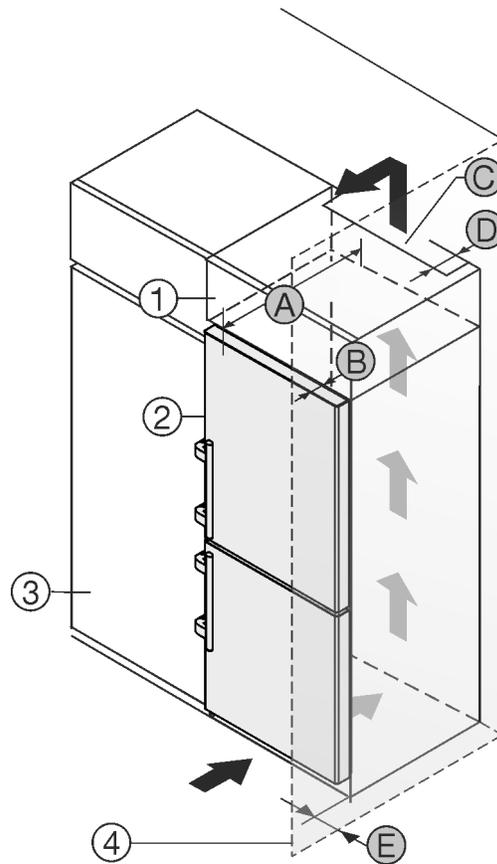

Fig. 2
- (1)** Top cabinet*
- (2)** Appliance*
- (3)** Kitchen cabinet*
- (4)** Wall*
- (A)** Appliance depth*
- (B)** Door depth*
- (C)** Ventilation cross-section*
- (D)** Distance to the rear of the appliance*
- (E)** Distance to the side of the appliance*
Set up the appliance directly next to the kitchen cabinet Fig. 2 (3).*
There must be a ventilation shaft at the depth Fig. 2 (D) of the back of the top cupboard over the entire width of the top cupboard.*
The cross section of the ventilation gap Fig. 2 (C) must be maintained below the ceiling.*
If the appliance is installed with the hinges next to a wall Fig. 2 (4), the distance between the appliance and the wall must be at least 57 mm (2.24 in). This is how far the handle protrudes when the door is open.*
In order to be able to fully open the door, the appliance must protrude by the depth *Fig. 2 (B)* of the door from the front of the kitchen cabinet. Regardless of the depth of the kitchen cabinets *Fig. 2 (3)* and use of wall spaces, the appliance can protrude further.*